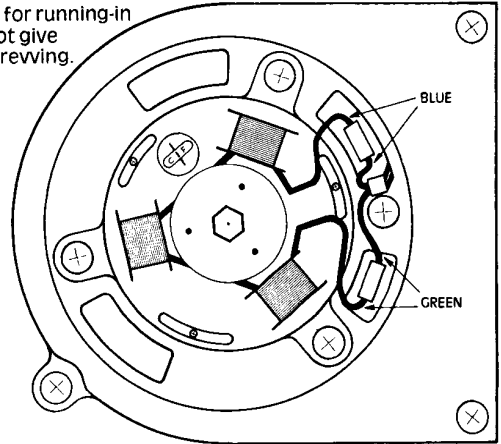

FIG 1
10. Fit the stator plate (b) to the contact breaker mounting on the outside of the alternator using three of the contact breaker mounting screws with fitted flat washers. The large hole should line up over the timing slot in the alternator and the screws half way along their adjustment slots (see figure 1).
- 3) CLEAN OFF THE CONTACT BREAKER PLATE OR MAKE A NEW ONE TO HOLD THE KH250 TRIGGER PLATE IN PLACE AROUND THE ROTOR. SEE FIG 1.